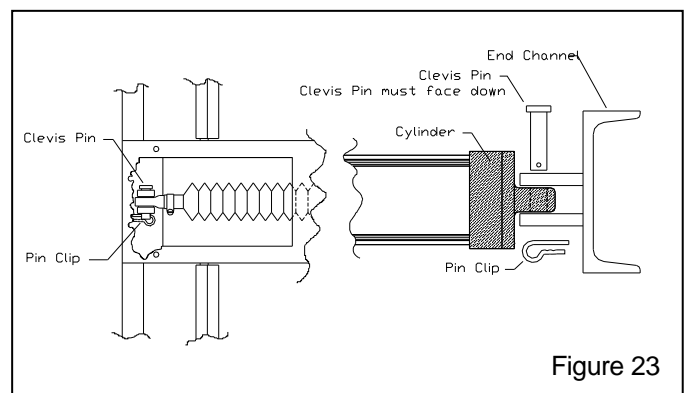

Figure 23
2.8.1.5 Mount the cylinders to the end channels and carriage as shown in Figure 23. The clevis pin on the cylinder base must face down. Both rod and base clevis pins are retained with pin clips.